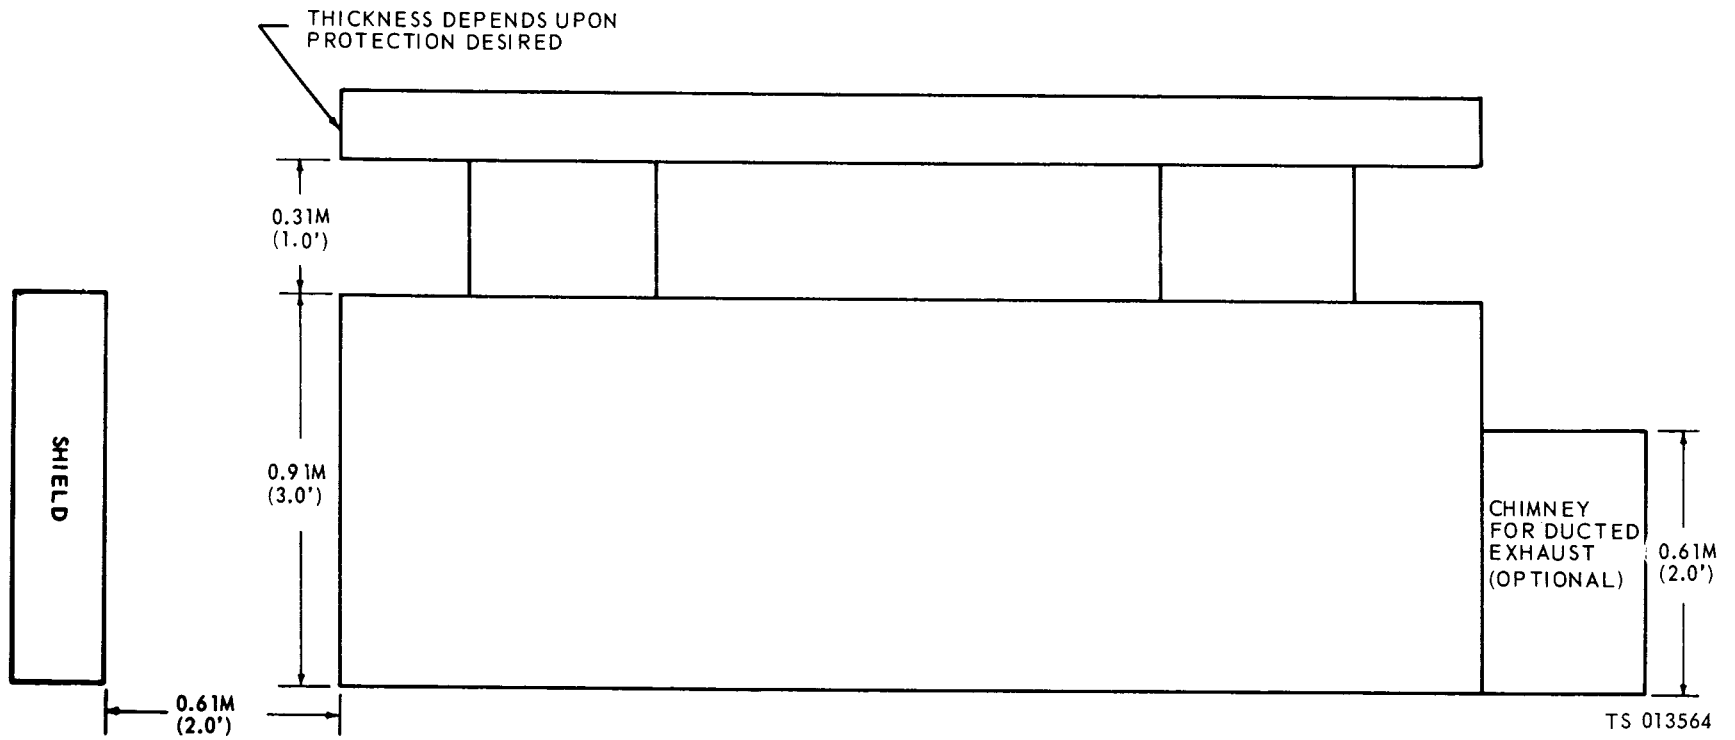

Figure 4-2. Revetment, side plan view.
e. *Roof Construction.* The roof can be supported by any means possible, but should be 1 foot (0.31 meters) above the wall of the revetment and provide as much open space around the top as possible. Refer to figures 4-2,4-3,4-4,4-5, and 4-6.